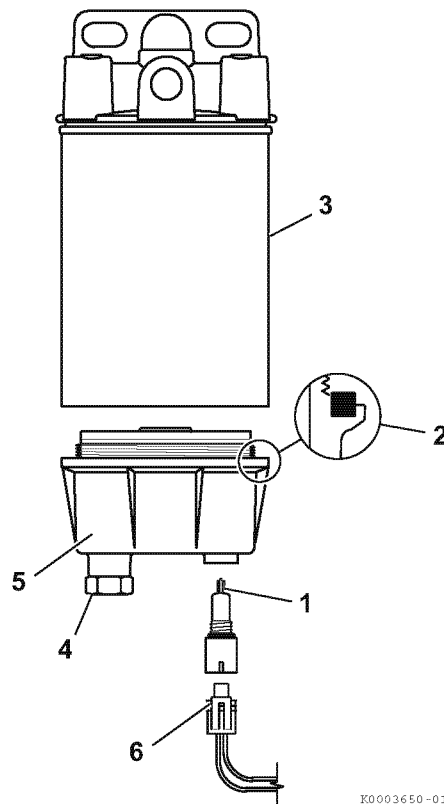

Figure 6-37
3. Loosen the drain plug (4, **Figure 6-37**) on the bottom of the fuel filter/water separator and drain off any water or sediment.
4. Disconnect water sensor connector (6, **Figure 6-37**).
5. Turn the filter bowl (5, **Figure 6-37**) counterclockwise to remove.
6. Remove the old filter element (3, **Figure 6-37**).
- Clean the filter bowl. Inspect the water sensor probe (1, **Figure 6-37**) for damage. Inspect the bowl seal (2, **Figure 6-37**).
- Lubricate the seal at the top of the new filter element (3, **Figure 6-37**) and install.
- Lubricate the filter bowl seal (2, **Figure 6-37**) and install the filter bowl. Turn clockwise by hand to tighten.
- Ensure drain plug (4, **Figure 6-37**) is securely tightened.
- Connect water sensor connector (6, **Figure 6-37**).